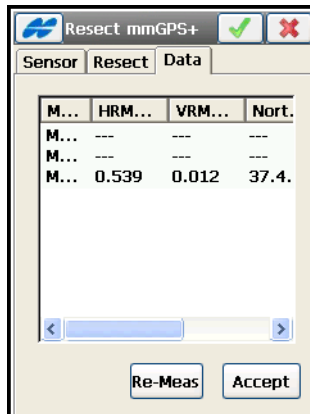

Figure 8-47. Resection – Data Tab
**Data** tab (Figure 8-47) is used to view the results of resection measurements. Data displays only after three or more points have been measured.